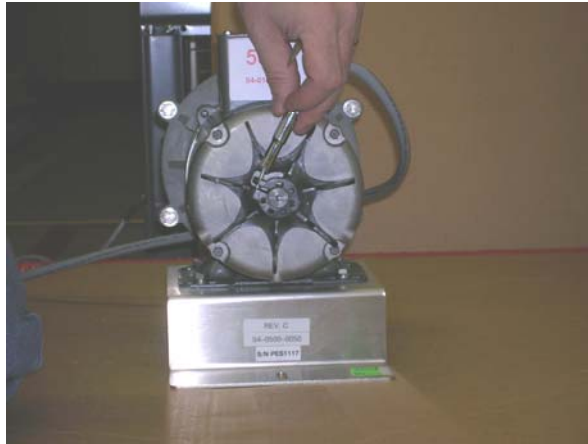

Figure 17 Removing the Fan from the Pump Motor Shaft
13. Using a 1/4" socket wrench, remove the fan from the pump motor shaft. (Refer to Figure 17.)